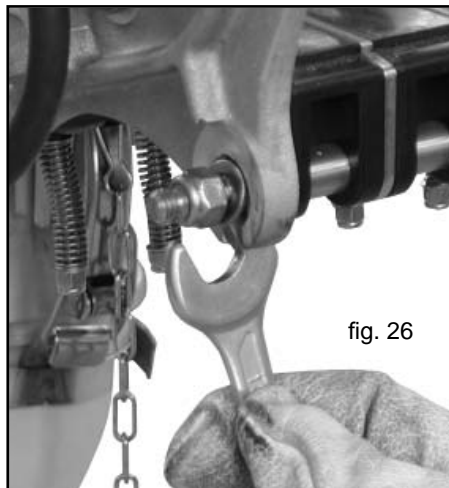

fig. 26
- 2) until it is becomes possible to push out the discs fitted inside, remove them from their seats (Fig. 26) and move the axles.